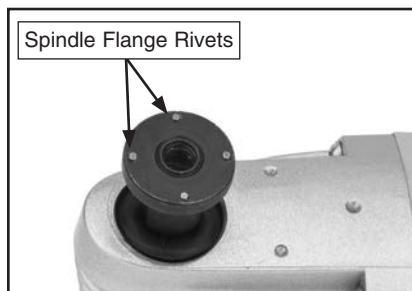

Figure 3. Flange rivets for aligning accessory grooves.
2. Lay the multi-tool tool on a flat surface with the tool flange facing upward (see **Figure 3**).
4. Place the accessory of choice onto the tool flange at the desired direction, aligning the rivets of the tool flange with the grooves of the accessory (see **Figure 3**).